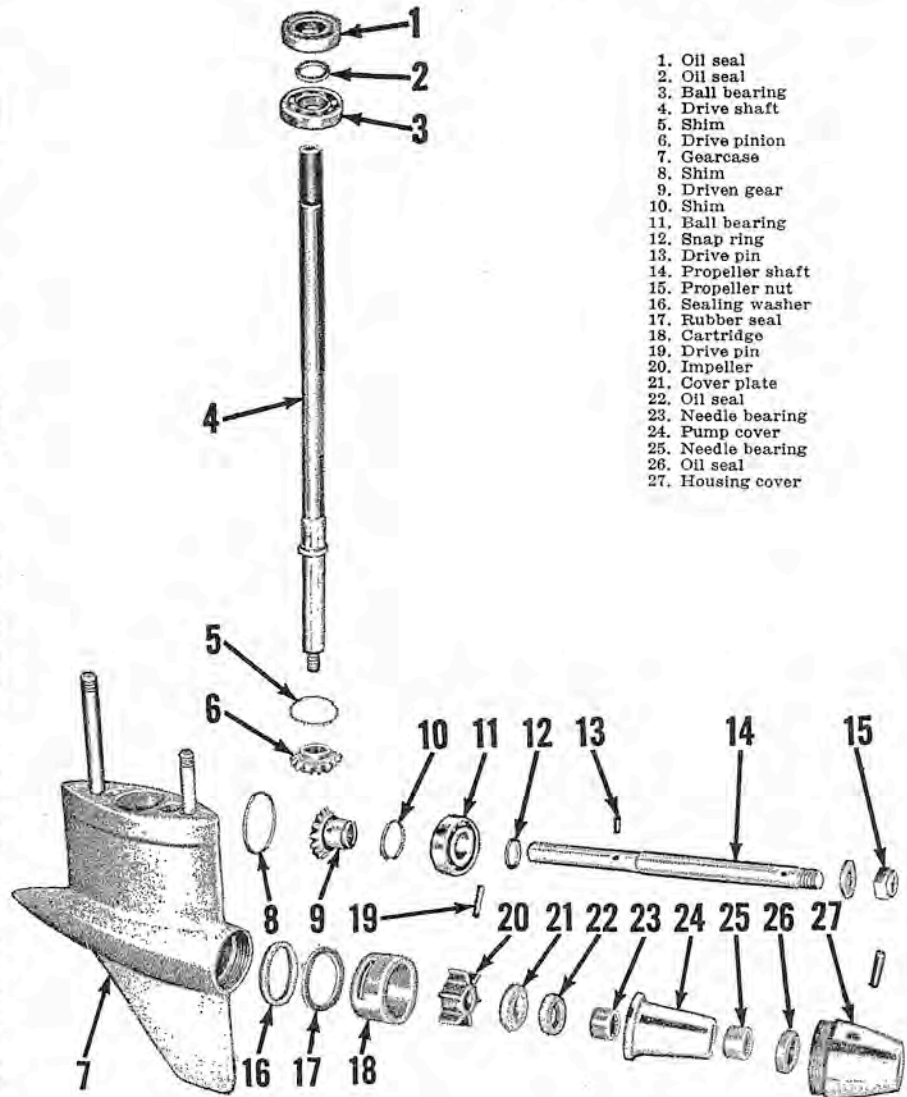

Fig. M103—Exploded view of "Quicksilver" gearcase and associated parts used on older models.
QUICKSILVER UNIT. Refer to Fig. M103. The water pump is housed on and driven by the propeller shaft as shown. Gearcase cover cone (27) has a left hand thread. Remove cover cone using Mercury tool 91-24117 or equivalent. Lift off cover (24) and remove impeller (20) by prying out with screwdrivers. Remove water pump cartridge (18) using Mercury puller 91-24120. Secure propeller shaft (14) in a protected vise and tap housing (7) from shaft with a soft mallet. Remove nut from lower end of drive shaft (4) then remove the shaft by tapping on housing (7) to free the pinion and bearing.